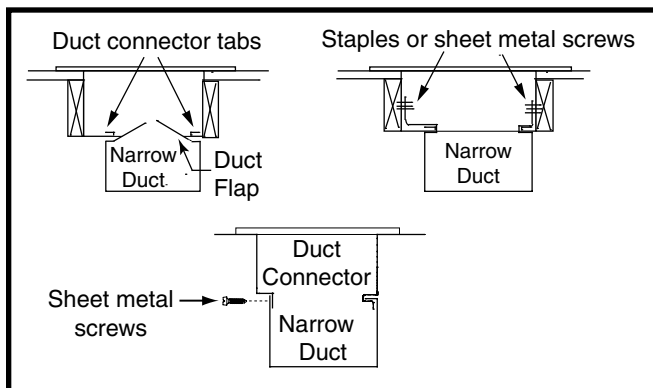

Figure 12. Narrow Ducts
4. Bend the tabs on the bottom of the duct connector upwards and as tight as possible against the supply air duct. See Figure 12 \(page 10\).